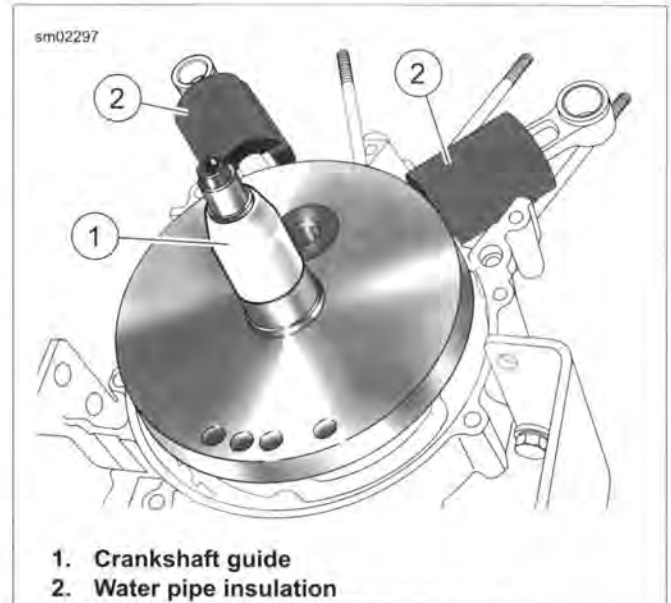

Figure 3-130. Crankshaft Guide
- See Figure 3-130. Place CRANKSHAFT GUIDE (Part No. HD-42326-B) over end of crankshaft until it contacts shoulder on shaft.